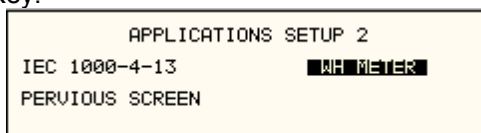

Figure 8-43: Application Screen
- From the Menu screen 2, select the APPLICATIONS SETUP 2 screen. The screen will appear as shown in Figure 8-43. Use the up and down key to position the cursor to the WH METER field. Press the Enter Key.